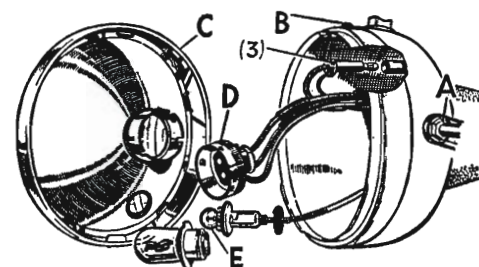

FIGURE 33. Headlight dismantled for bulb removal.
To make an adjustment, slacken the side mounting (A) FIG. 33 and move it until the correct setting is obtained. Finally, retighten the securing screws.
To gain access to the headlight bulb slacken the front rim retaining screw (B) situated at the top of the body (FIG. 33). Disengage and withdraw the front rim and light unit assembly (C) removing the upper edge first. Press and turn the adapter and withdraw the defective bulb. After fitting the replacement bulb, reverse the above procedure to reassemble the lamp. The bulbs are of the pre-focus type and are 12 volt, 50/40 watt.
Disengage and withdraw the front rim and light unit assembly. The parking light bulb holder and bulb (E) FIG. 33, can then be withdrawn from the reflector in which it is a push-fit. Use a 12 volt, 6 watt bulb.